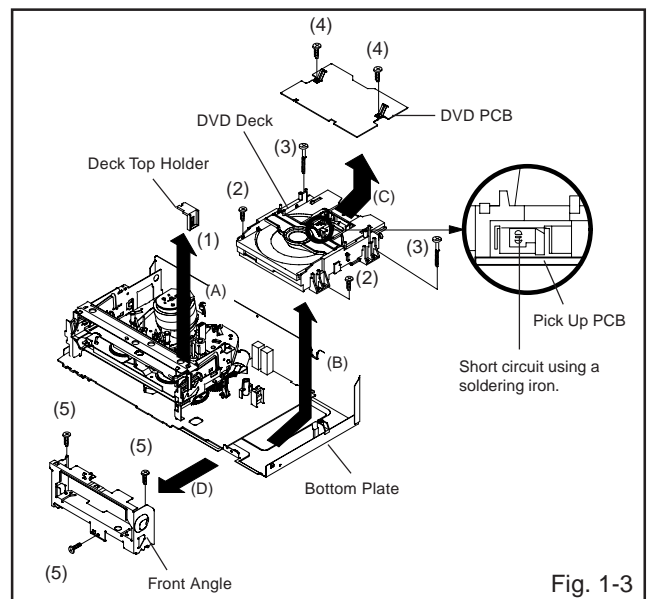

Fig. 1-3
### 1-3: DVD DECK/DVD PCB (Refer to Fig. 1-3)
1. Short circuit the position shown in **Fig. 1-3** using a soldering iron. If you remove the DVD Deck with no soldering, the Laser may be damaged.
2. Unlock the support (1) and remove the Deck Top Holder in the direction of arrow (A).
3. Remove the 2 screws (2).
4. Remove the 2 screws (3).
6. Remove the DVD Deck in the direction of arrow (B).
7. Remove the 2 screws (4).
9. Remove the DVD PCB in the direction of arrow (C).
10. Remove the 3 screws (5).
11. Remove the Front Angle in the direction of arrow (D).